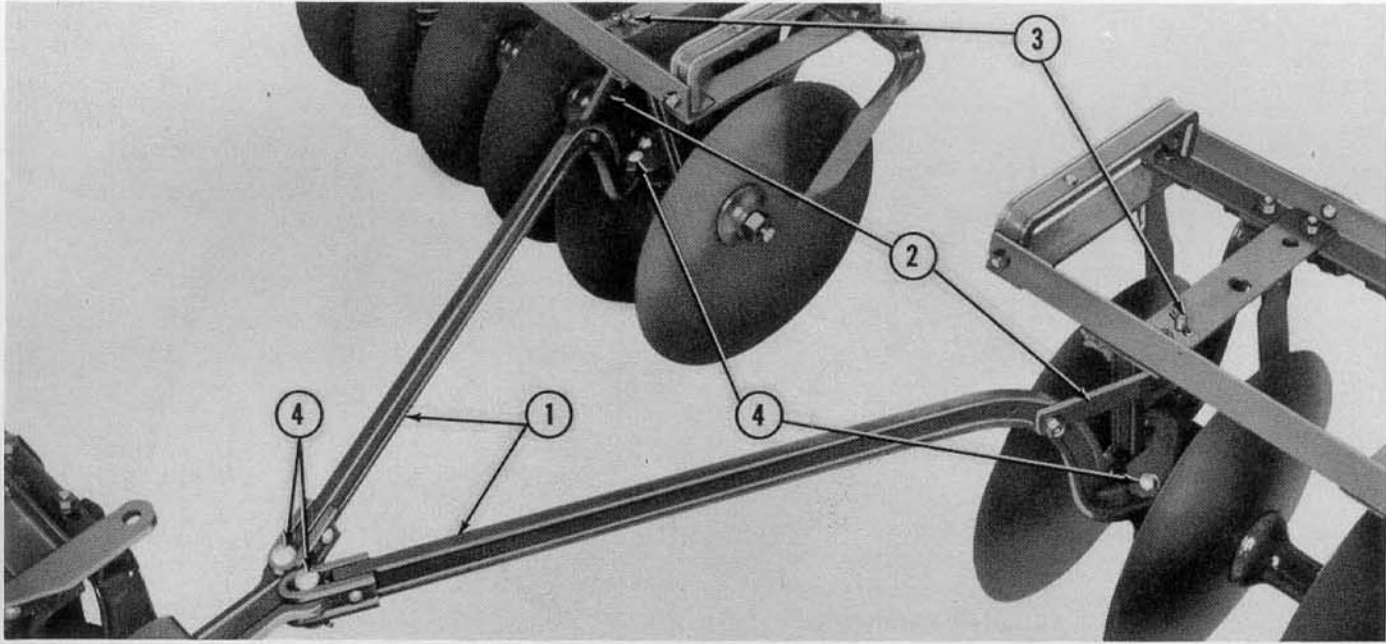
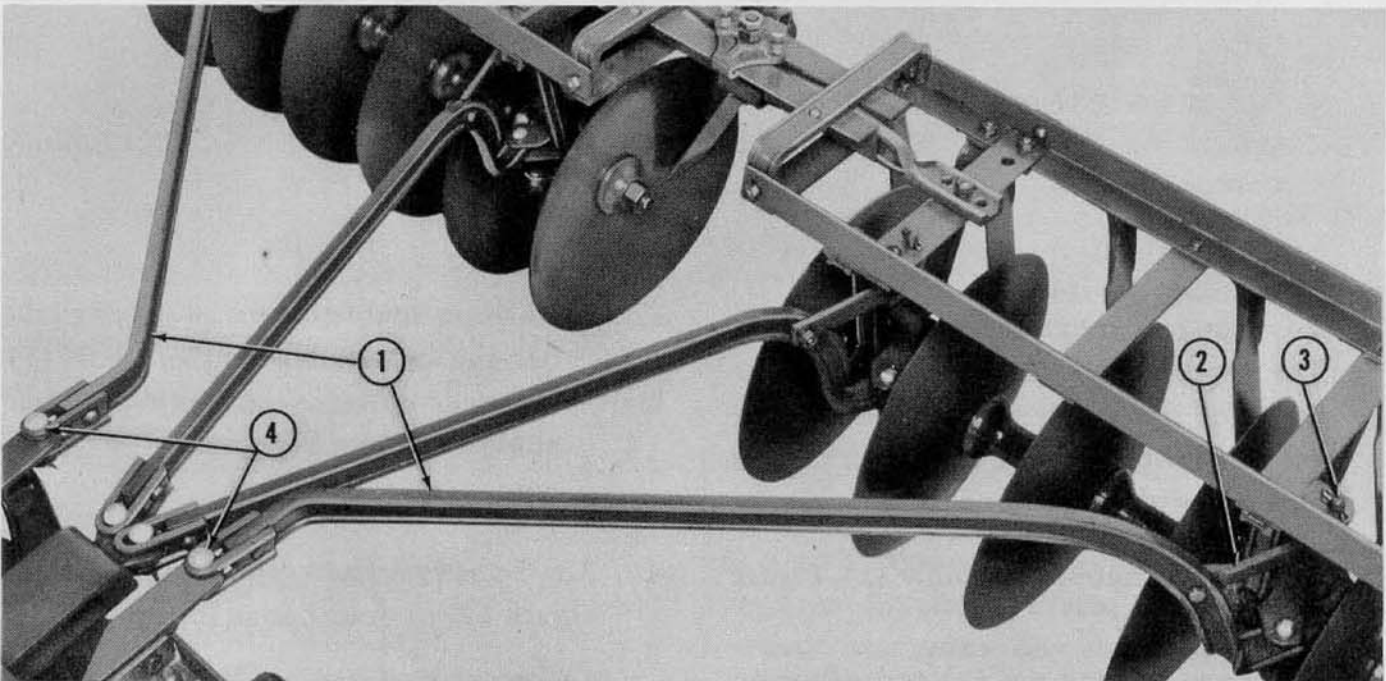

Figure 8
Figure 9
13. Attach inside reaches (1), Figure 8, to
front and rear gangs as shown. The reach braces (2) are bolted to reach arms and secured to disc gang with cotter pins (3) as shown in Figure 8.
14. Secure pins (4) at both ends of the reaches with cotter pins.
15. Attach outside reaches (1), Figure 9, to
front and rear gangs as shown in Figure 9. The reach braces (2) are bolted to the *inside* of the reach and are secured to gangs with cotter pins (3). Secure clevis pins (4) with cotter pins.